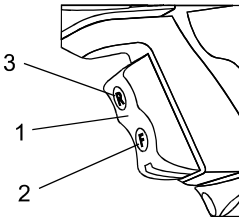

Fig. 2
This impact wrench is equipped with a rocker style forward/reverse switch (1) (see Fig. 2).
1. To operate the impact wrench in the forward direction, press and hold the bottom part of the switch (2). This direction of rotation will **tighten** the fastener.
2. To operate the impact wrench in the reverse direction, press and hold the top part of the switch (3). This direction of rotation will **loosen** the fastener.